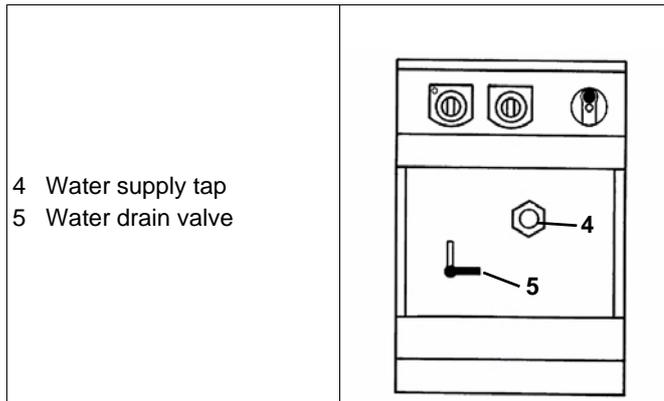

Fig.10 Front view
- ⇒ Water loss in the trough can be replaced by turning on the tap (4/Fig.10).
- ⇒ Drain the water from the trough by opening the water outlet valve (5/Fig.10) (turn the handle anti-clockwise into the vertical position).